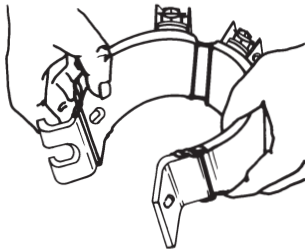

Figure 1
- Grip mounting tabs at each end and spread sufficiently to position heater band around the surface to be heated. (See Figure 1)